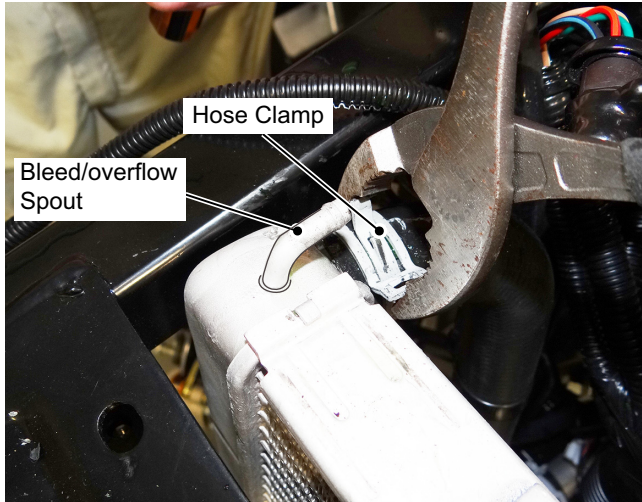

Fig. 8 Remove Radiator Hoses
3. Remove the constant bleed line from the spout located above the upper radiator hose connection (See Fig. 8).